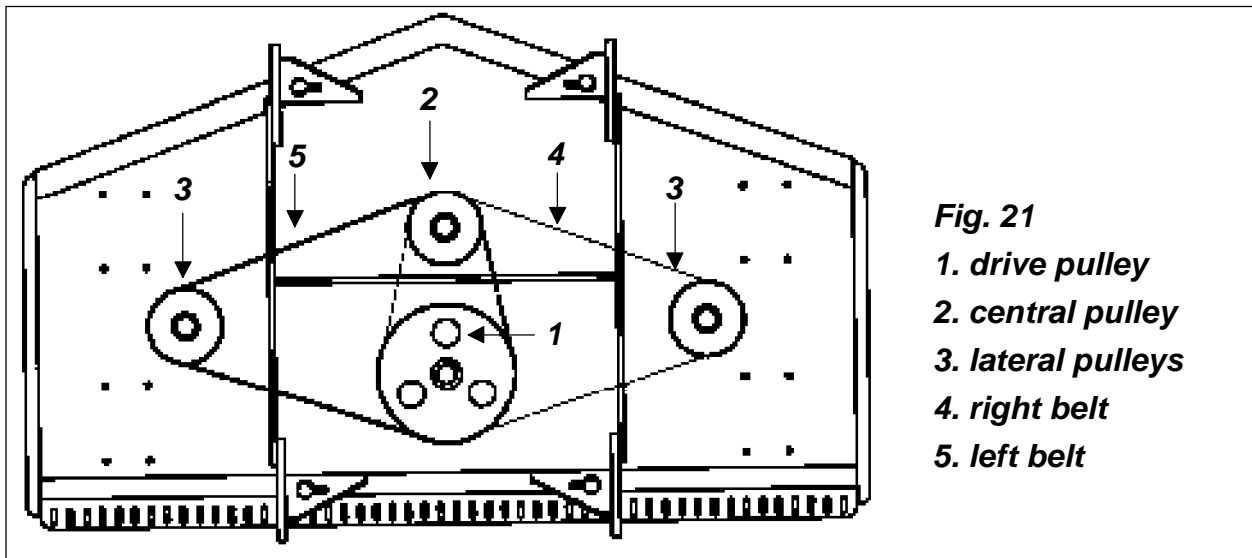

Fig. 21
8. Replace new belts (**see fig. 21**). Loop the first belt over the left spindle and around the lower groove of the centre spindle pulley and the lower groove of the gearbox drive pulley. The second belt connects the upper grooves of the centre spindle pulley and the gearbox drive pulley with the right spindle pulley.